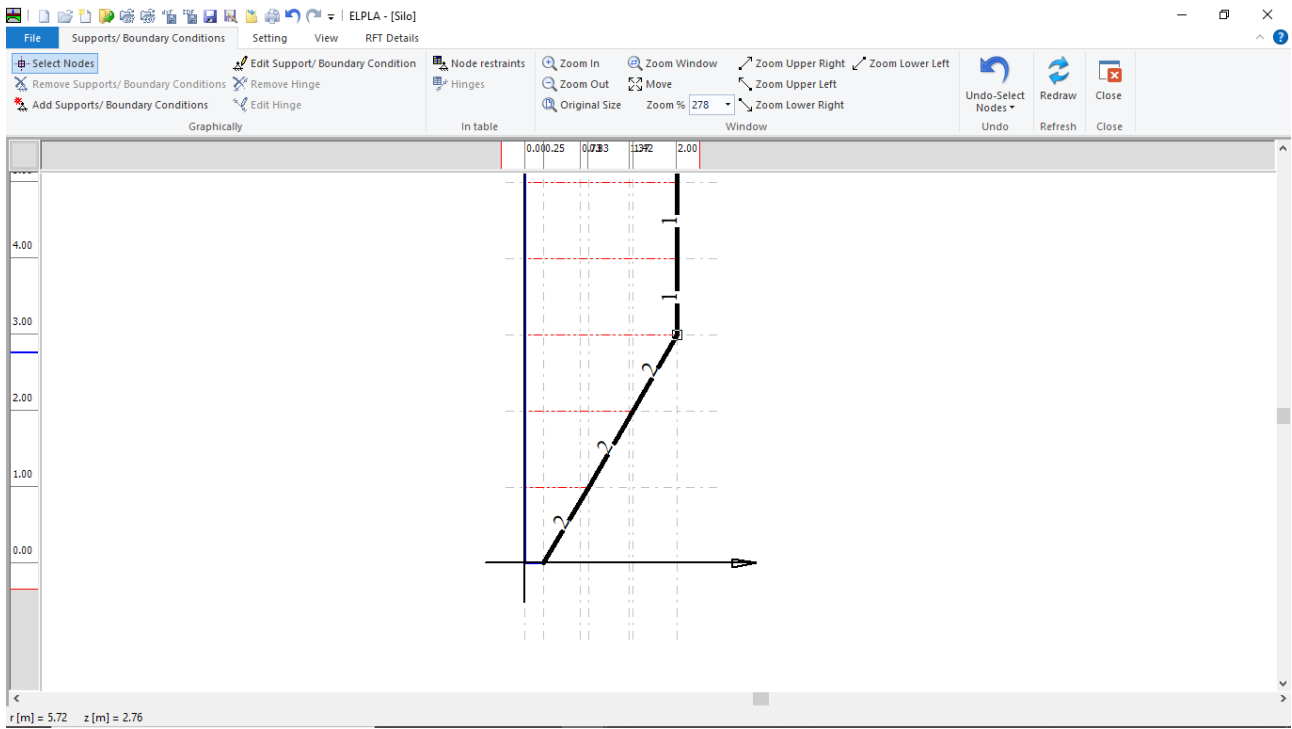

Figure 13.18 Selection of the node that has the support
- Click the left mouse button on the node that has the support as shown in Figure 13.18